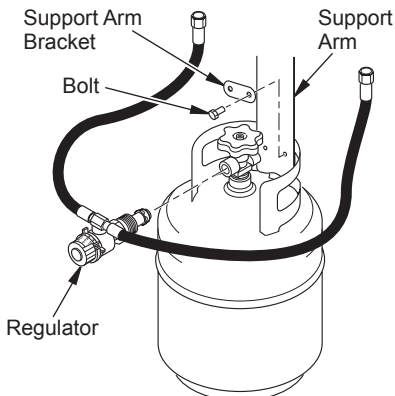

Figure 5 - Attaching Support Arm and Regulator to Propane/LP Tank
5. **30,000 Btu Models Only** Attach the heater to the guard on the propane/LP cylinder with the support arm on the inside of the guard and bolts through two holes in the guard (see Figure 5). Tighten the support arm bracket into place using the wing nuts provided.